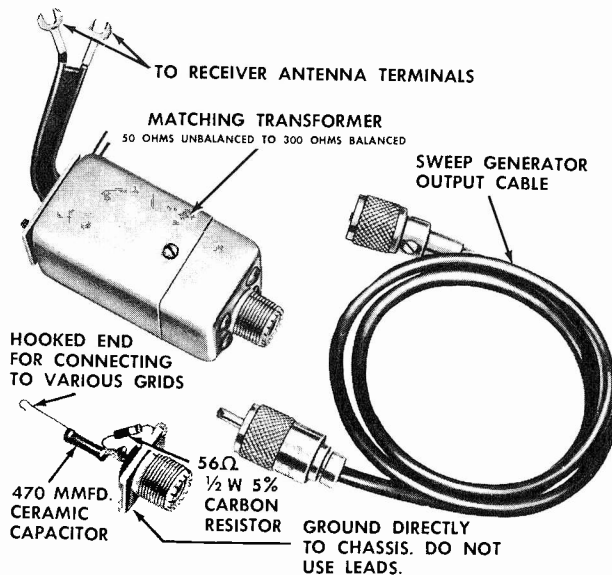
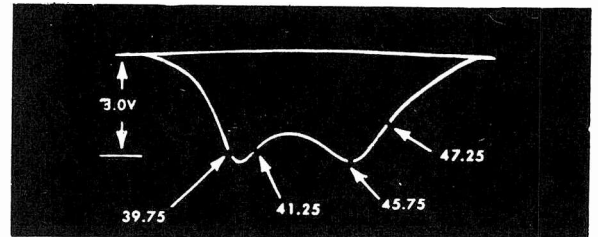
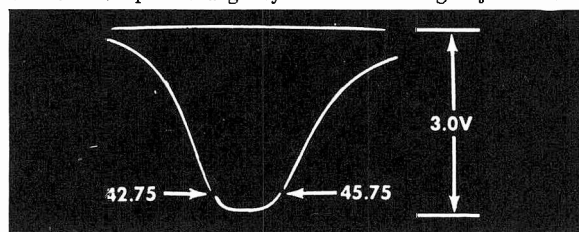

Fig. 1. Alignment Fixtures for IF-RF
Fig. 2. 4th IF Response
Fig. 7. 4th IF Response
3. Feed the sweep generator through a special terminating network as shown in Fig. 1. to Point "G" (Grid of the 3rd IF). Adjust generator to obtain a response similar to Fig. 2. with a detector output of 3 volts peak to peak. Do not exceed this level during any of the adjustments.
4. Set the marker generator to 45.75 Mc and alternately adjust the top and bottom cores of the 4th IF for maximum gain and symmetry with the 45.75 Mc marker positioned as shown in Fig. 2. The two peaks must be equal in height and the high frequency peak at 45.75 Mc. If the correct response cannot be obtained, check the position of the cores to see that they are not butted. The cores should be entering their respective windings from the opposite ends of the coils.
3. Feed the sweep generator through a special terminating network as shown in Fig. 1. to Point "G" (Pin 1 of the 3rd IF). Adjust generator to obtain a response similar to Fig. 7. Do not exceed the 3 volt peak to peak detector output during any of the following adjustments.
4. Set the marker generator to 45.75 Mc and alternately adjust the top and bottom cores of the 4th IF for maximum gain and symmetry with the 45.75 Mc and the 42.75 Mc markers positioned as shown in Fig. 7. If the correct response cannot be obtained, check the cores to see that they are not butted but are entering their respective windings from the opposite ends of the coil.